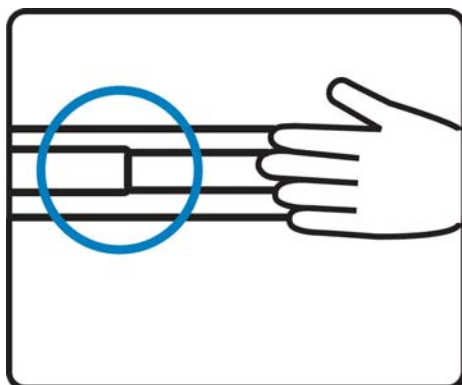

Figure 9
- Push the LCD keyboard drawer into the rack. (shown in **Figure 9**).